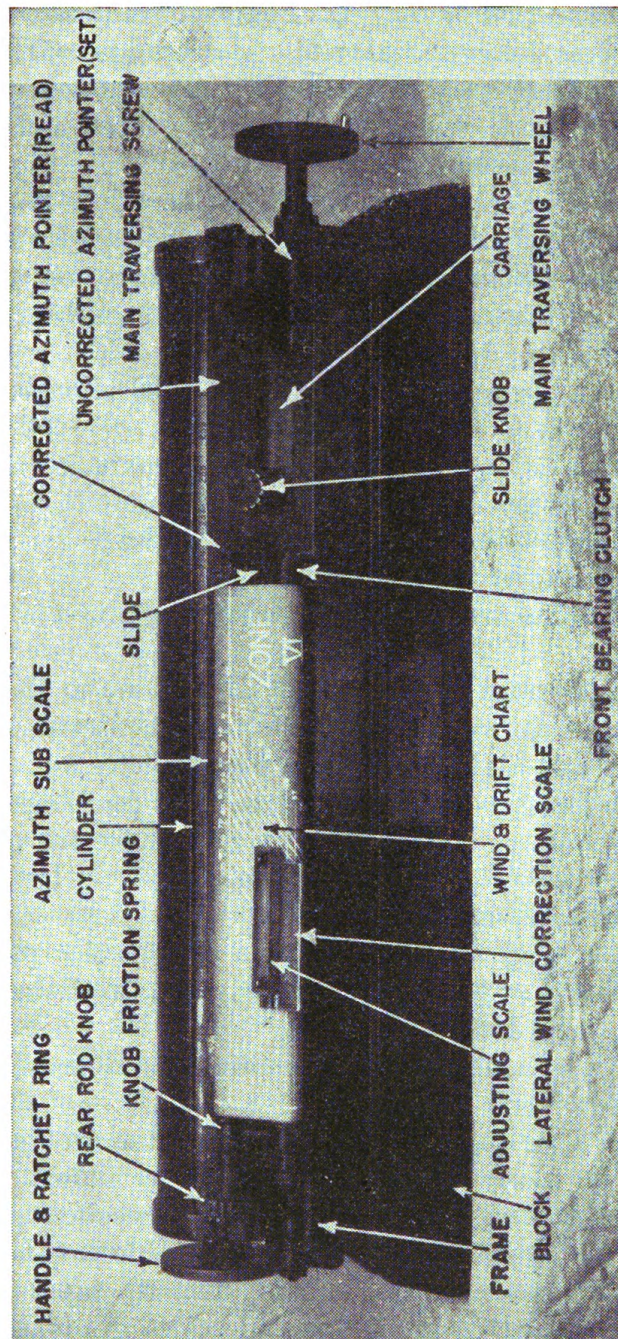

FIGURE 50.—Mortar deflection board M1906.
(9) Repeat (6), (7), and (8) for each set-forward point.
*b. Mortar deflection board M1906.—Q.* Point out and state the purpose of each of the parts shown in figure 50. *A.* See figure 50.
(1) Bring the "read" and "set" pointers of the board to the same azimuth reading.
(2) Bring adjusting and lateral wind-correction scales to normal of 3.00.
(3) Fasten the deflection chart to rollers so that the zero deflection line falls immediately beneath the normal of the adjusting scale.